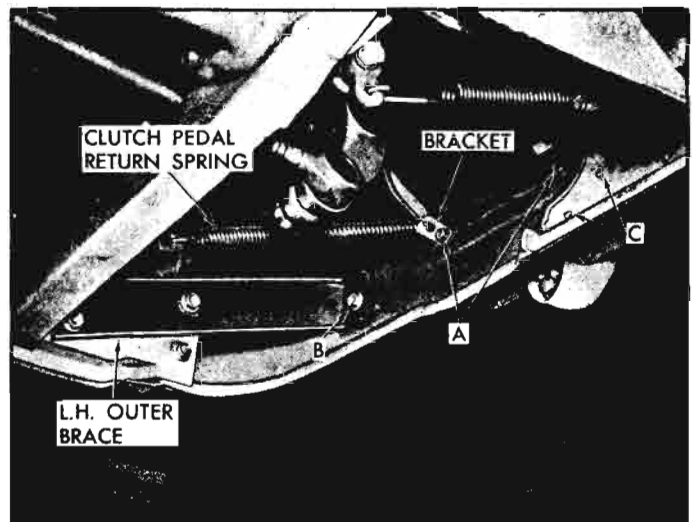
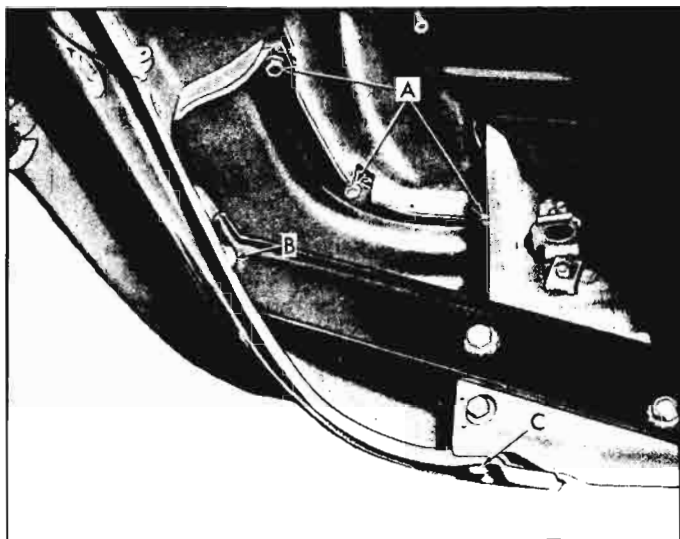

Fig. 10-33a—Installed Left, Front Outer Panel Extension
Fig. 10-34a—Installed Right, Front Outer Panel Extension
2. Unhook clutch pedal return spring at bracket and remove two bolts at ("A", fig. 10-33a).
3. Remove two bolts at ("C", fig. 10-33a).
4. Remove three bolts at ("A", fig. 10-34a).
5. Remove bolt ("C", fig. 10-34a) and remove left, front outer panel extension.
2. Install bolt ("C", fig. 10-34a) and three bolts at ("A", fig. 10-34a).
3. Install two bolts at ("C", fig. 10-34a) and two bolts at ("A", fig. 10-33a) with clutch pedal spring return bracket (fig. 10-33a) on left outer panel extension.